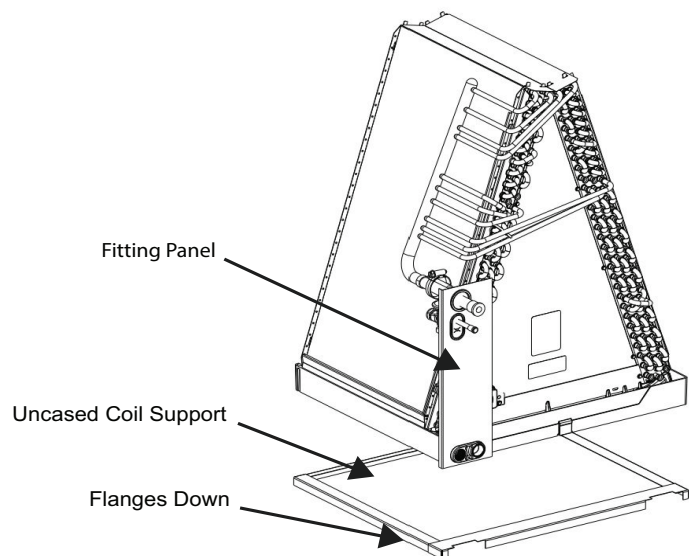

Fig. 1 – Uncased Coil Support
1. Remove and discard fitting panel shipped with the uncased coil (Fig. 1).
1. Mount factory coil support (shipped with coil) directly on furnace flanges to support the coil (Fig. 1).